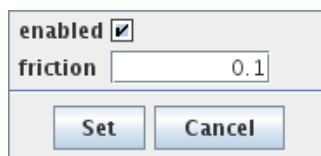

Figure 68: Dialog for setting collision behavior between bodies.
- If a user selects a particular set of rigid and/or deformable bodies, a specific collision behavior may be established among those bodies by choosing “Set collisions ...” from the context menu. That will open the dialog shown in Figure 68, allowing the enabled and friction properties for this behavior to be set.